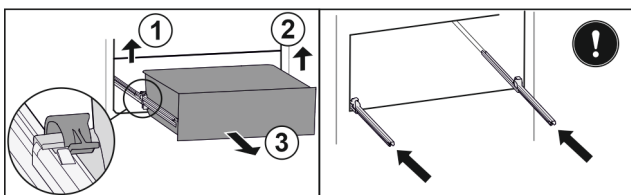

Fig. 90
- ▶ Lift left clamp and simultaneously pull drawer forwards on the left. Fig. 90 (1)
- ▶ Lift right clamp and simultaneously pull drawer forwards on the right. Fig. 90 (2)
- ▶ Remove drawer to the front. Fig. 90 (3)